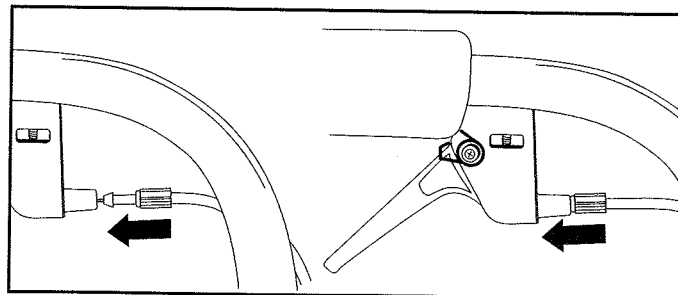

Fig. 11
5. Push the throttle cable housing into the trigger housing until it snaps into place (Fig. 11).